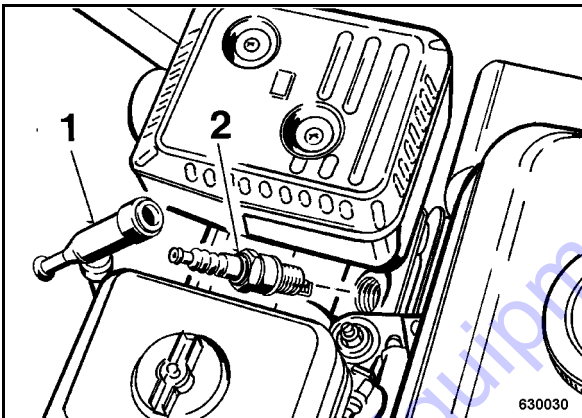

Fig. 51
- Pull off the spark plug socket (1) (Fig. 51) and unscrew the spark plug (2).